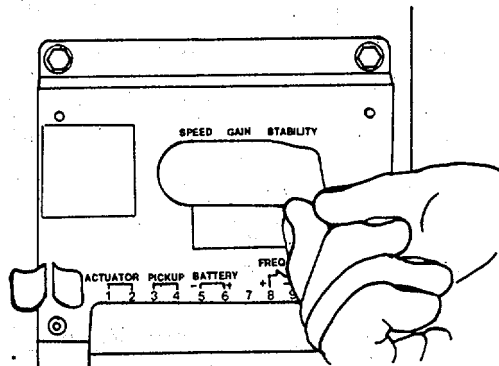

FIGURE 3-14. Remove Speed Control Unit Access Plug.
- (1) Remove speed control unit access plug. (FIGURE 3-14)